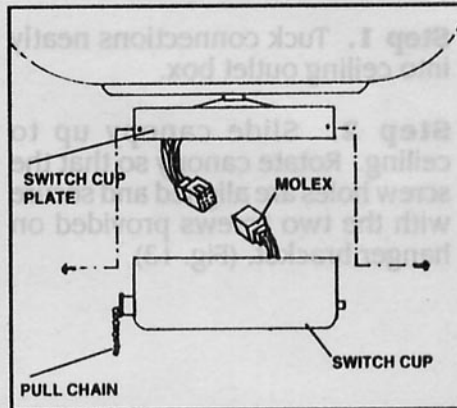

FIG. 16
**Step 1.** Remove the screws from the switch cup plate. While holding the switch cup, firmly snap the wire molexes together. Next, slide switch cup up against plate and rotate it until the screw holes are aligned. Secure switch cup to plate using the screws removed earlier. (Fig. 16)
**Step 2.** Attach the pull chain fob to the chain on the switch cup. (Fig. 16)